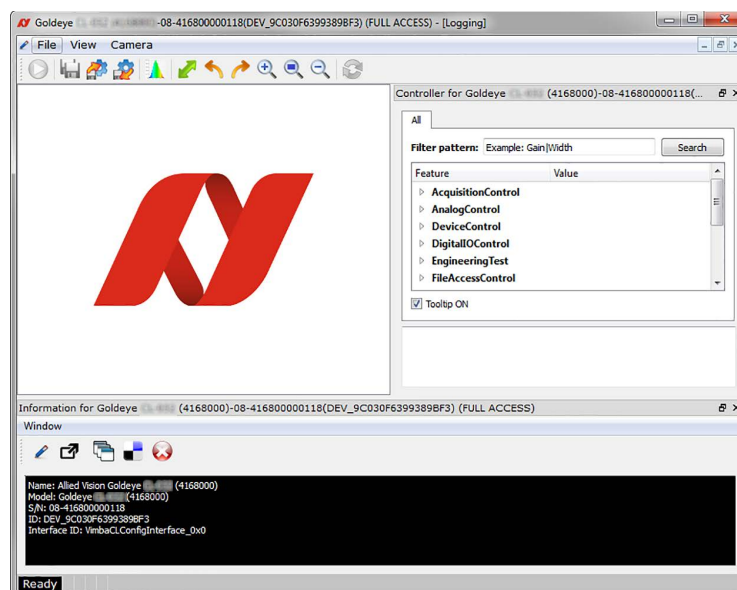

Figure 11: Vimba Viewer window
4. A new camera window appears, as shown in Figure 11 on page 65. This camera window consists of the following components:
The controller window is displayed in the top right section of the **Vimba Viewer** window, refer to Figure 11 on page 65. It is used to configure the camera frame rate, exposure time, pixel format, and much more. A detailed explanation of camera controls is available in the Goldeye G/CL Features Reference.